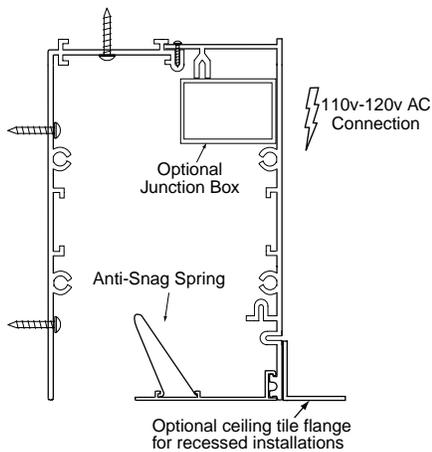
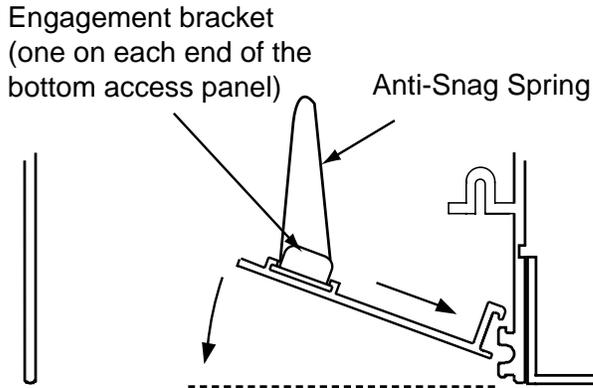

Figure 4
Figure 14
- ① Drill holes through the top of the rear housing as required (see Fig. 4).
- ② Position housing against ceiling and transfer mounting hole locations.
- ③ Install appropriate anchors.
- ④ Mount housing to ceiling.
- ① Drill holes through the back of the rear housing as required.
- ② Position housing against wall and transfer mounting hole locations.
- ③ Install appropriate anchors, and mount housing to wall (see Fig. 4).
- ① Insert anti-slag springs (see also Fig. 4, page 2) into extrusion closest to edge of bottom closure panel.
- ② Insert retainer springs into same extrusion, on each end.
- ③ Install bottom closure panel (see Fig. 14)